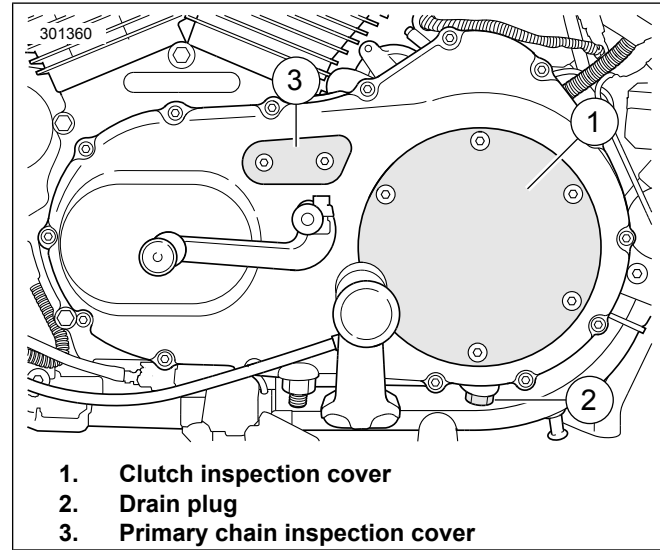

Figure 46. Primary Cover
5. See Figure 46. Remove screws with washers from clutch inspection cover. Remove clutch inspection cover from primary cover.
4. See Figure 46. Position a suitable container under transmission drain plug (2).
10. See Figure 46. Remove screws with washers from clutch inspection cover (1). Remove clutch inspection cover from primary cover.